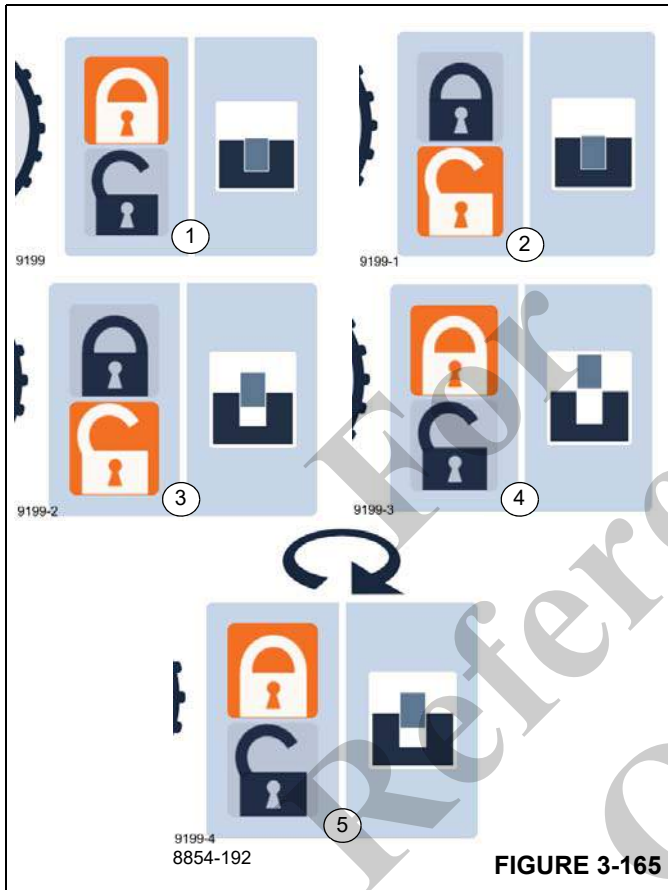

FIGURE 3-165
- Lock function highlighted, pin locked (1), (Figure 3-165)
- Unlock function highlighted, pin locked (2)
- Unlock function highlighted, pin in between (3)
- Lock function highlighted, pin unlocked (4)
- Lock function highlighted, pin in between error (5)